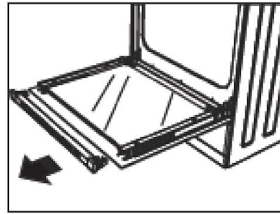

Fig. 2
- Pull the profile towards you as shown in Figure 2